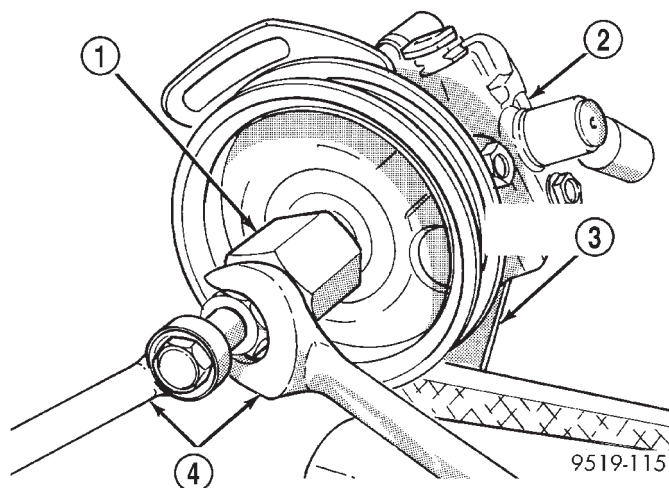

Fig. 27 Installing Pulley On Shaft Of Power Steering Pump
(4) Mount Installer, Special Tool C-4063 in internal threads of the power steering pump shaft and against Special Tool 6936 on power steering pump pulley (Fig. 27).
(5) Ensuring that special tool and pulley remain aligned with pump shaft, force pulley onto power steering pump shaft until Special Tool 6936 is against the end of the shaft. **When Special Tool 6936 is against the shaft of the power steering pump, Special Tool C-4063 will no longer be able to be turned.**
(6) Remove Installer, Special Tool C-4063 from power steering pump.